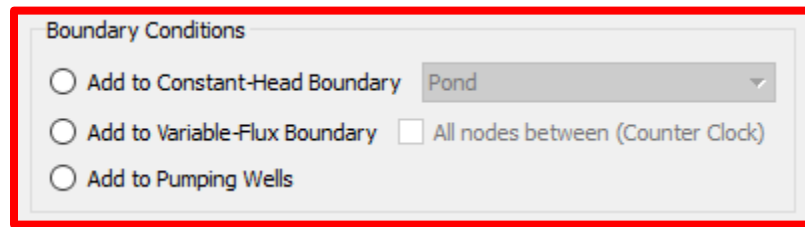
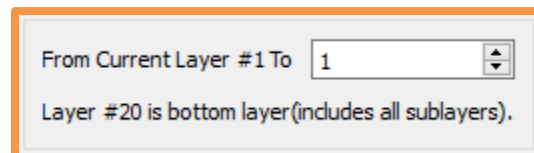

Figure 6.9. Assign boundary conditions to selected nodes
Figure 6.12. The multiple layers specification dialog box
- Assign boundary conditions (constant head, variable flux, or pumping wells), as shown in Figure 6.9. After selecting one of the options, the number of layers to be assigned with the boundary conditions should also be specified, as discussed later in this section.
- After the selection of one of the boundary conditions as shown in Figure 6.9, specify the number of layers. If nodes in more than one layer are to be selected, then the number of layers to be modified can be selected (Figure 6.12).